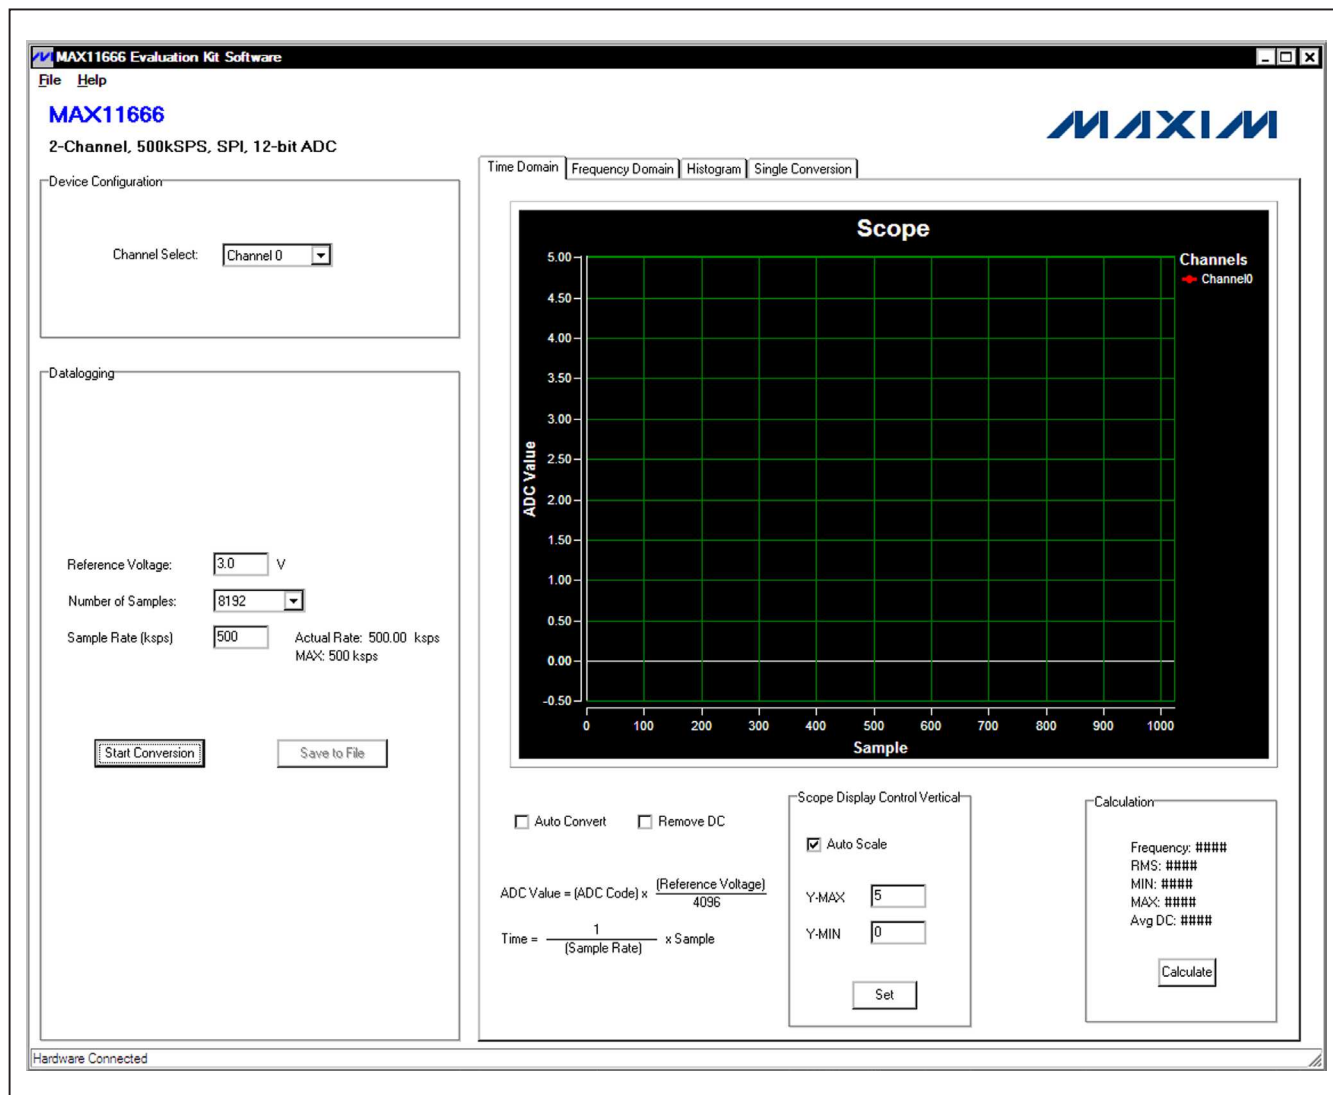

Figure 1. MAX11666 EV Kit Software Main Window
- 10) Start the EV kit software by opening its icon in the Windows **All Programs** menu. The EV kit software main window appears, as shown in Figure 1.
The main window of the evaluation software (Figure 1) contains a **Device Configuration** group box, a **Datalogging** group box, and four tab sheets to display the sampled data.